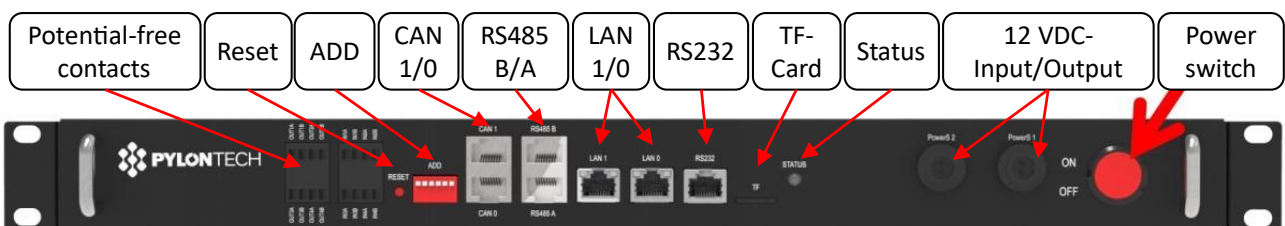

Figure 5-6: Overview of MBMS
6. Switch on MBMS (see "Figure 5-6: Overview of MBMS").